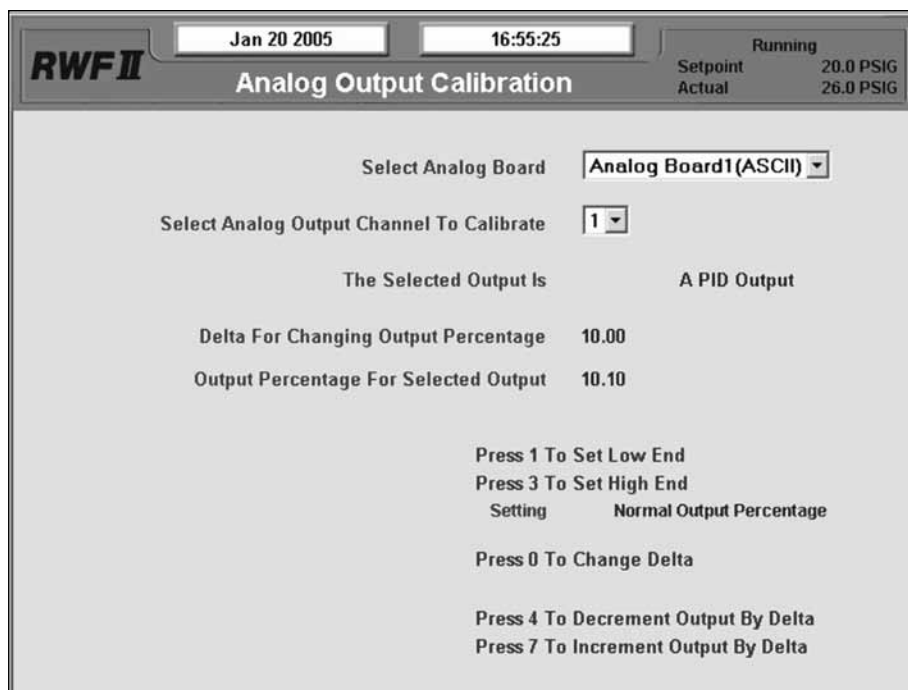

Figure 20 - Analog Output Calibration
- Set operating session to session [2] and go to the screen shown in Figure 20 by pressing [Menu] > [Calibration] > [Analog Outputs] > [Output Calibration].